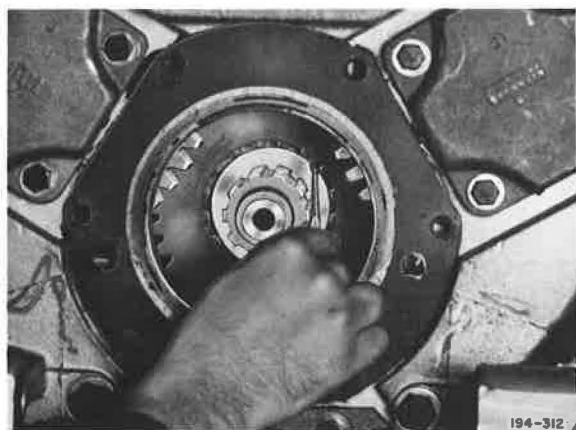

Figure 5-51. Aligning Fourth Speed Gear Thrust Washer Internal Teeth with Mainshaft External Teeth
18. Using a small tool, move thrust washer one tooth so that the inner teeth align with mainshaft splines. See Figure 5-51.